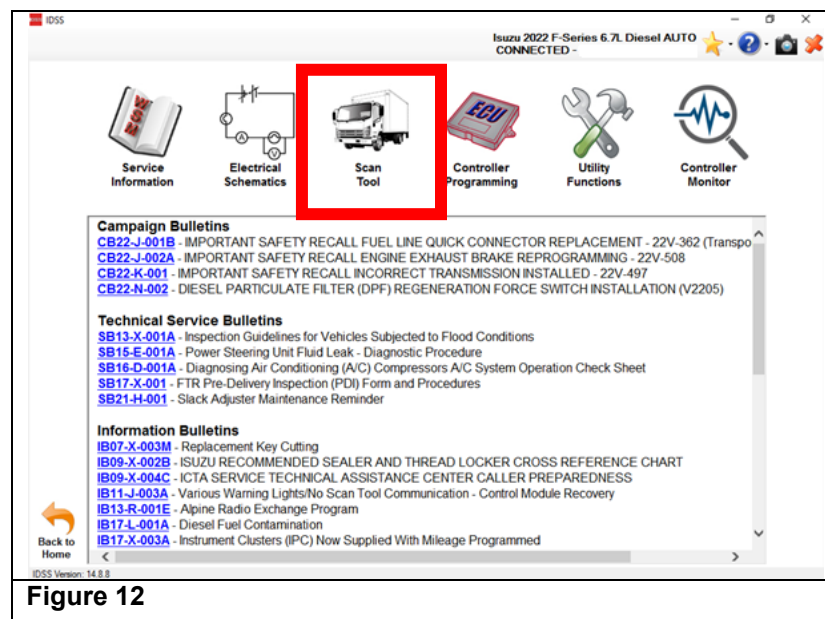

Figure 12
17. Connect Isuzu Diagnostic Service System (IDSS) version 15.0.9 or later, to the vehicle and click on the “Auto Detect” button and then select “Scan Tool”. (See Figure 12.)